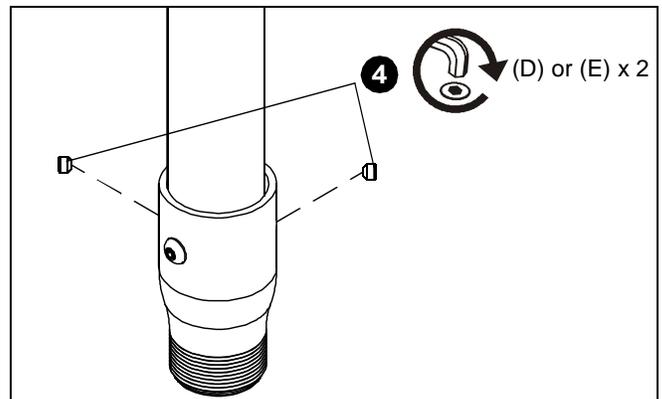

Figure 3
4. Attach and tighten two 5/16 x 1/4" set screws (D) or two 5/16 x 1/4" security set screws (E) into side of CMS-261 (A). (See Figure 3)